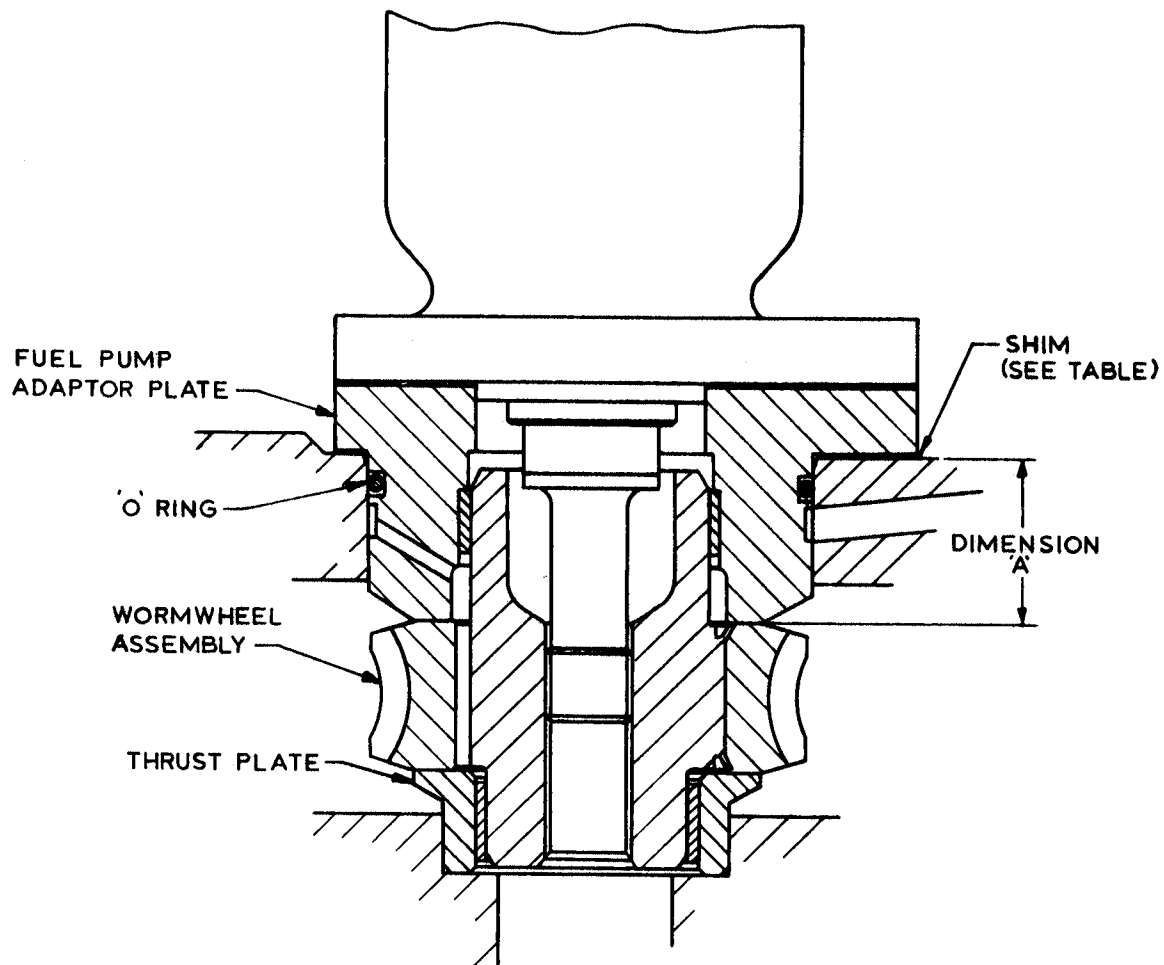

Fig. J.18
**Important :** On contra-rotating engines, when fitting a replacement wormwheel and shaft assembly or thrust plate, the dimension 'A' (Fig. J.18), i.e. from the top face of the wormwheel to the top face of the auxiliary drive housing, should be checked and related to the following table of dimensions. This will determine the amount of shimming (if any) which must be fitted between the fuel pump adaptor plate and the auxiliary drive housing, to give the required clearance.